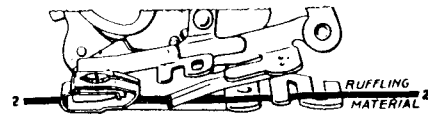

Fig. 49. Correct Position for Material to be Ruffled.
3. Insert material to be ruffled between two blue blades and under separator guide (Line 2, Fig. 49).